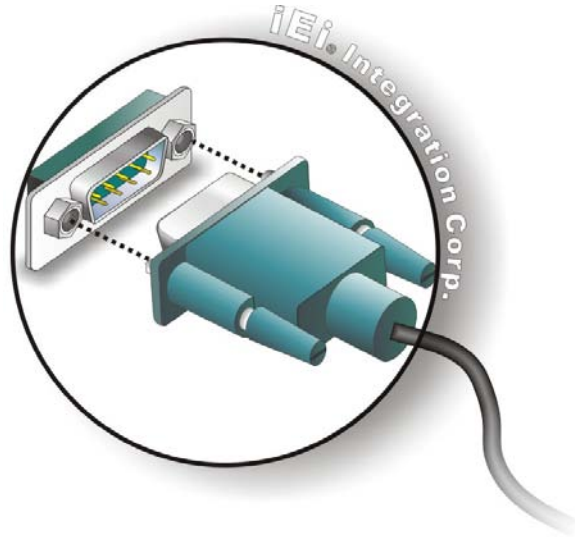

Figure 3-20: Serial Device Connector
Step 2: Insert the serial connector. Insert the DB-9 connector of a serial device into the DB-9 connector on the external peripheral interface. See **Figure 3-20**.